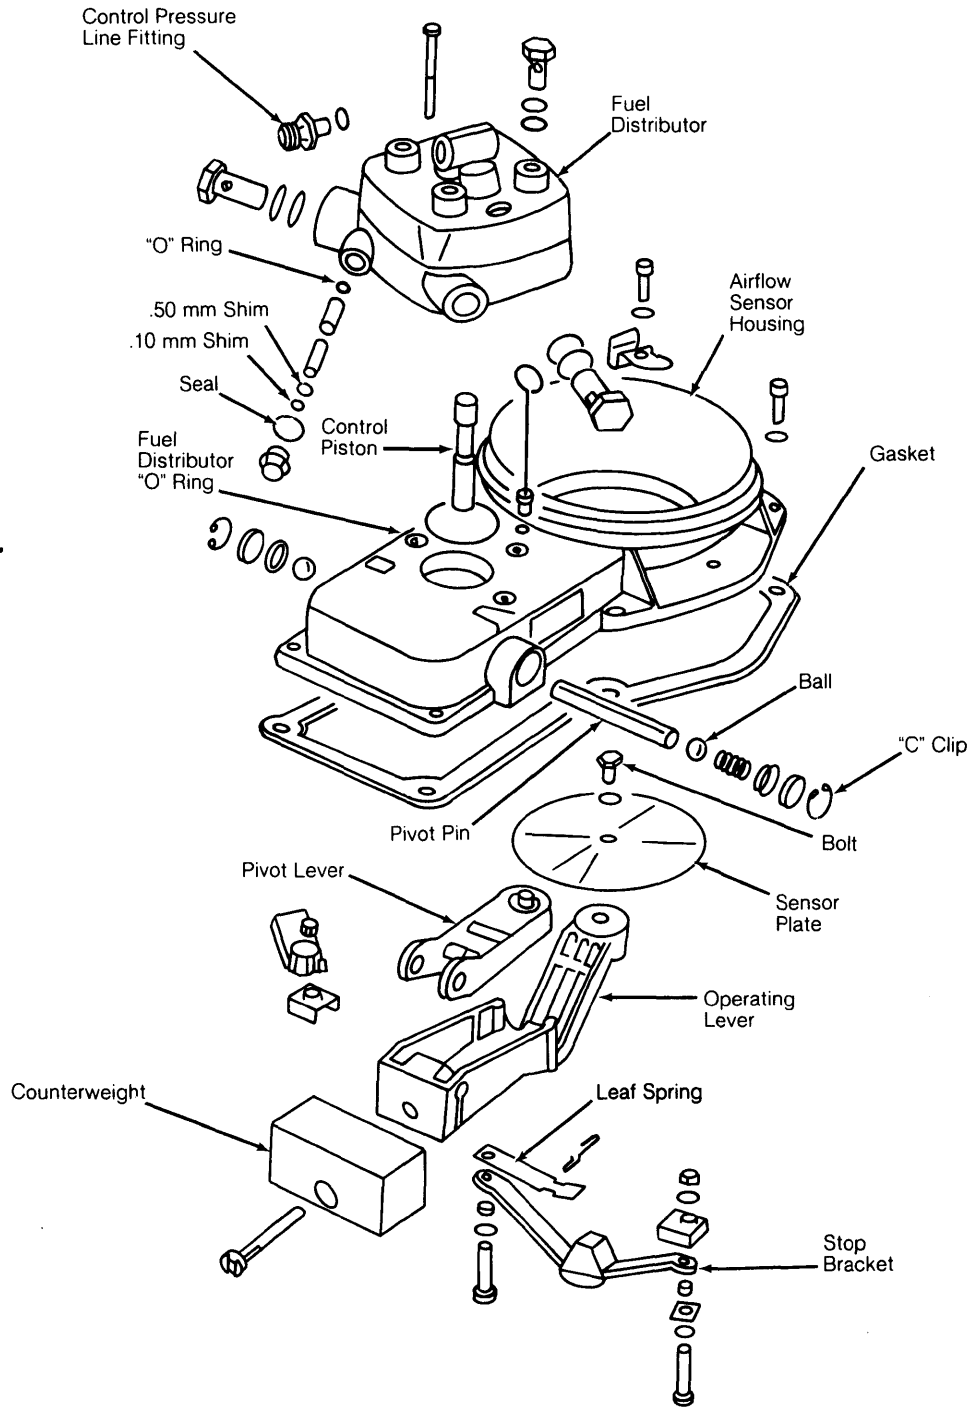

Fig. 6: Exploded View of 924 Mixture Control Unit
2) Detach wire plugs, loosen (6) Allen bolts and remove mixture control unit. To install, reverse removal procedure. Use new gaskets for housing and a new “O” ring beneath fuel distributor (if removed). See Fig. 6.